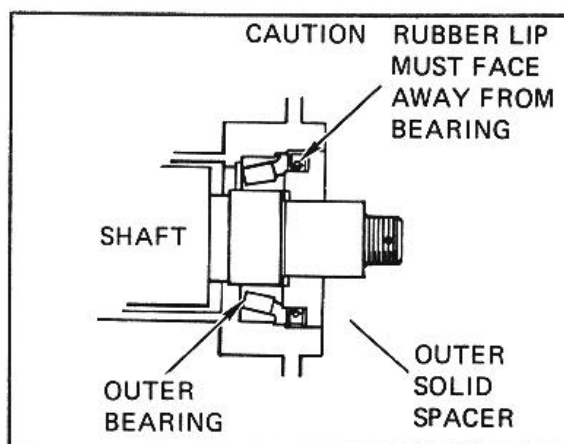

FIGURE 9-106.
e. Install outer bearing, grease seal, and outer solid spacer into each drum (see figure 9-106).